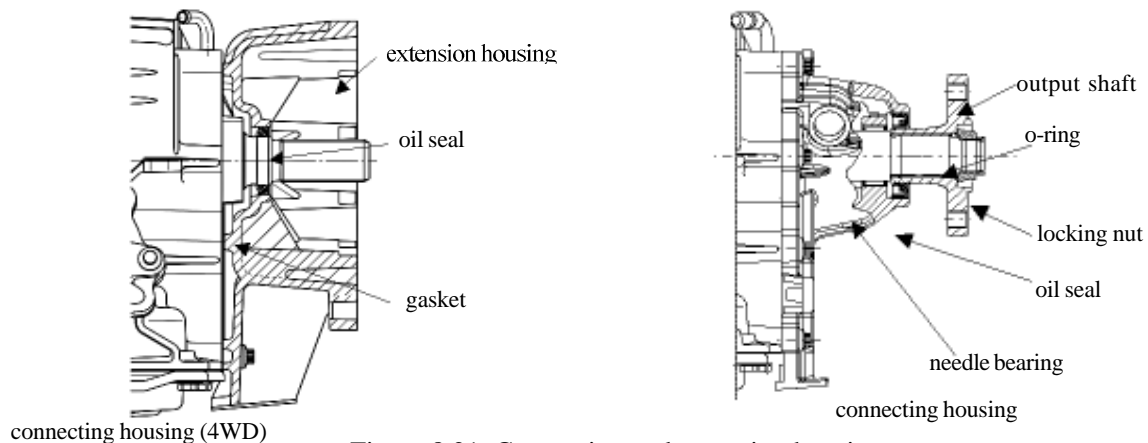

Figure 8.21 Connecting and extension housing
- b. Install the new sealing material on the transmission rear housing or adaptor rear housing. Refer to Figure 8.21.